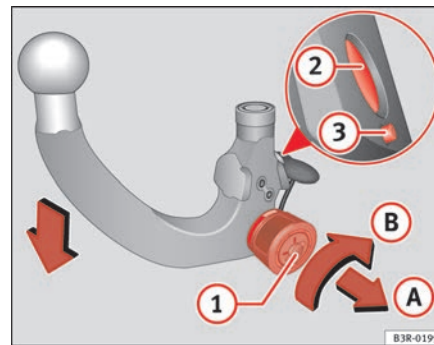

Fig. 152 Removable towing bracket: Setting the spring mechanism to the "ready" position
- Insert the key ① ⇒ page 191, fig. 152 in the lock on the knob and turn it towards the red marking.
- Pull out the knob in direction ①, hold and turn in direction ② until the locking pin ② engages and the release pin ③ moves out visibly ⇒ ⚠.